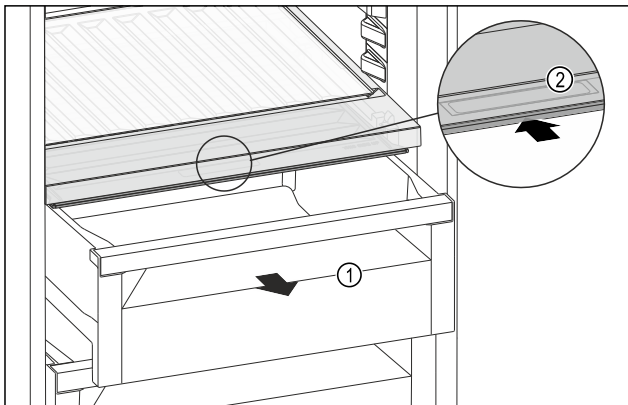

Fig. 174
- ▶ Pull out the drawer Fig. 174 (1).
- ▶ Grasp the recessed grip Fig. 174 (2) on the compartment lid and push the compartment lid backwards at the same time.